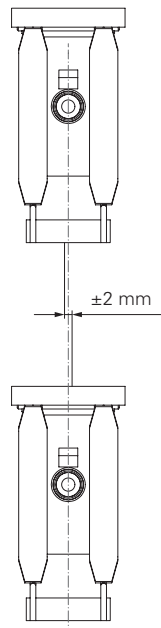

Fig. A3.30
- Climbing shoe-2 I: ± 2 mm (Fig. A3.30)